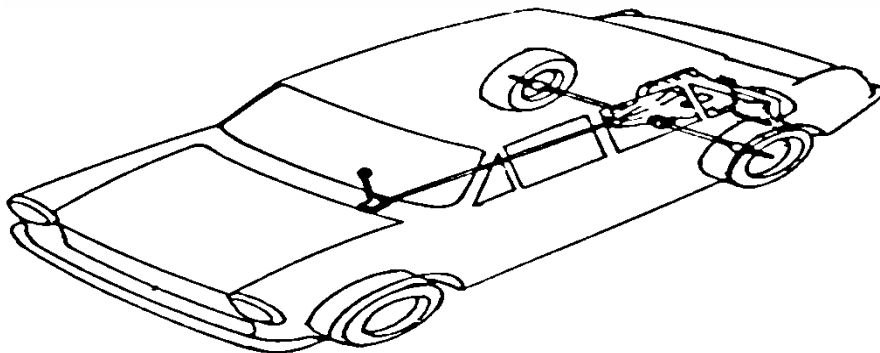

Figure 1
- (1) Majority of the candidates failed to identify the type of drive shown in figure 1.
- (2) Majority of the candidates were unable to explain splash feed.
- (3) The sketch of the bellows type thermostat was poorly done by most of the candidates
b. Figure 1 shows a type of drive and engine position in a motor vehicle.